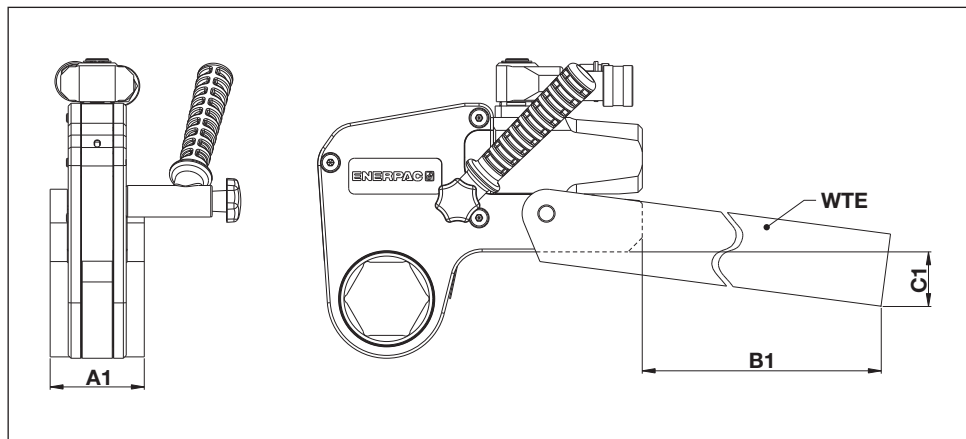

Fig. 21
6.1.1 Dimensions, WTE Series Extended Reaction Arm (Fig. 21)